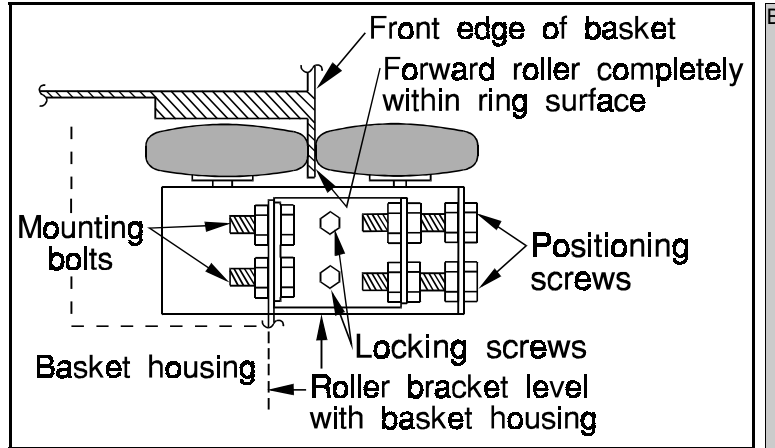

FIGURE 2 (MSSM0111AE)
1. Vertically position the roller assembly so the exposed (forward) roller will ride completely within the surface area of the front ring on the basket (FIGURE 2).